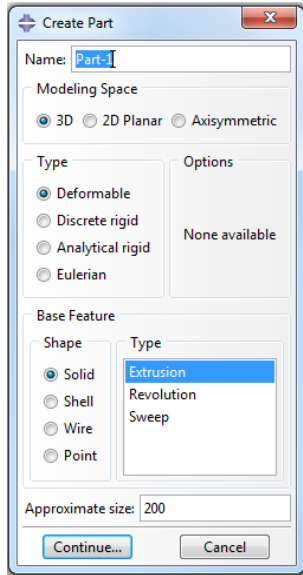
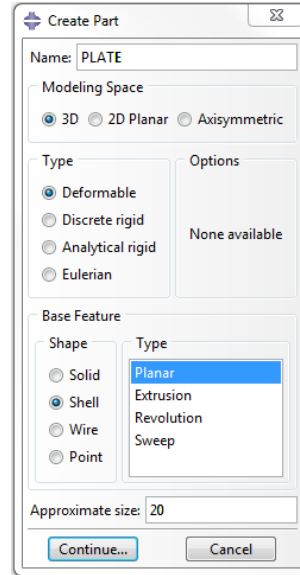

Figure 3a. Create Part Dialog Box
Figure 3b. Create Part Dialog Box (PLATE)
- Using the left mouse button, double click **Parts** in the model tree and the **Create Part** (Figure 3a) dialog box appears. Enter a new name for the part (PLATE), and under the Base Feature tab choose **Shell** for shape and **Planar** for type. Change the approximate size option to **20**. The **Create Part** dialog box should look identical to Figure 3b.